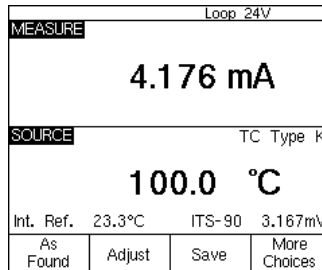

Figure 5
- Next, depress the "SETUP" button on the DPC. The cursor should begin on loop power. Depress "ENTER," down arrow until the DPC cursor is on Enable 24V and depress "ENTER." Next depress the "Done" softkey (Figure 5).